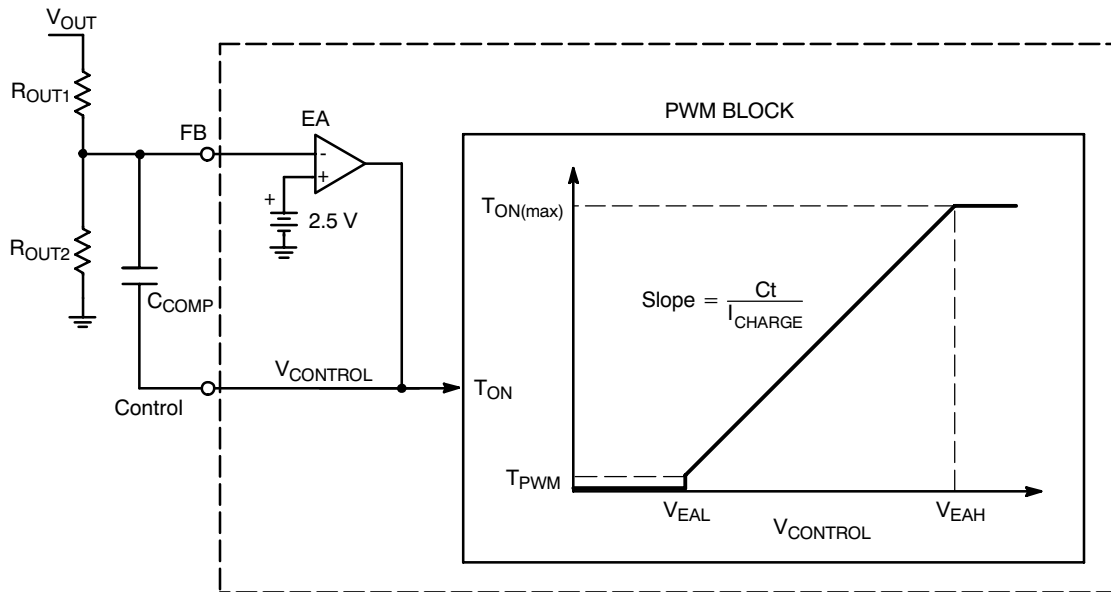

Figure 25. Error Amplifier and On Time Regulation Circuits
The NCP1606 is configured to regulate the boost output voltage based on its built in error amplifier (EA). The error amplifier’s negative terminal is pinned out to FB, the positive terminal is tied to a  $2.5\text{ V} \pm 1.5\%$  reference, and the output is pinned out to Control (Figure 25).